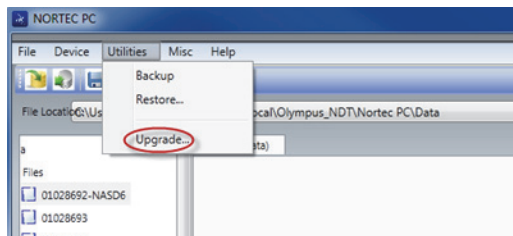
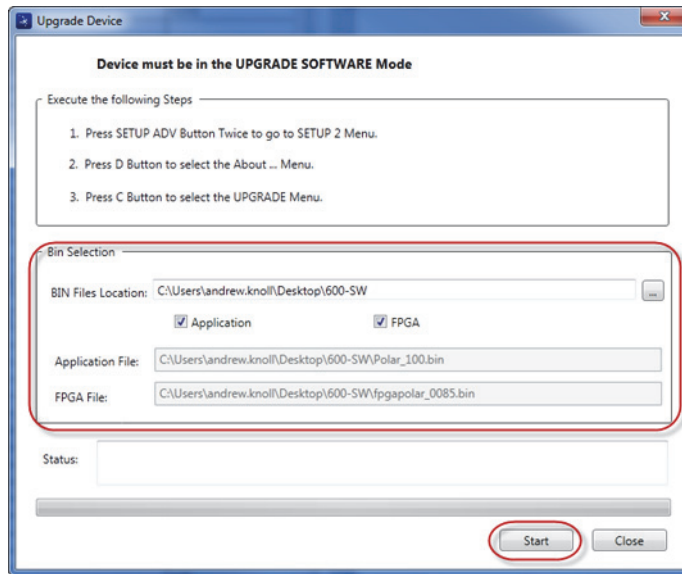

Figure 6-12 The Utilities menu
Figure 6-13 The Upgrade Device dialog box
6. On the NORTEC PC **Utilities** menu, select **Upgrade** (see Figure 6-12 on page 310). The **Upgrade Device** dialog box opens (see Figure 6-13 on page 311).
7. Under **Bin Selection** in the **Upgrade Device** dialog box, choose the location of the NORTEC 600 update software, and then select the **Application** and **FPGA** check boxes (see Figure 6-13 on page 311).